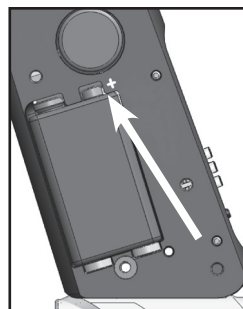

Figure 3: Battery installed correctly, arrow is positive terminal (+).
- Install a 9 volt battery into the battery area. The battery compartment is designed so that the battery will go in properly oriented. However, due to variances in battery manufacturers, be sure to orient the battery correctly as shown in Figure 3.